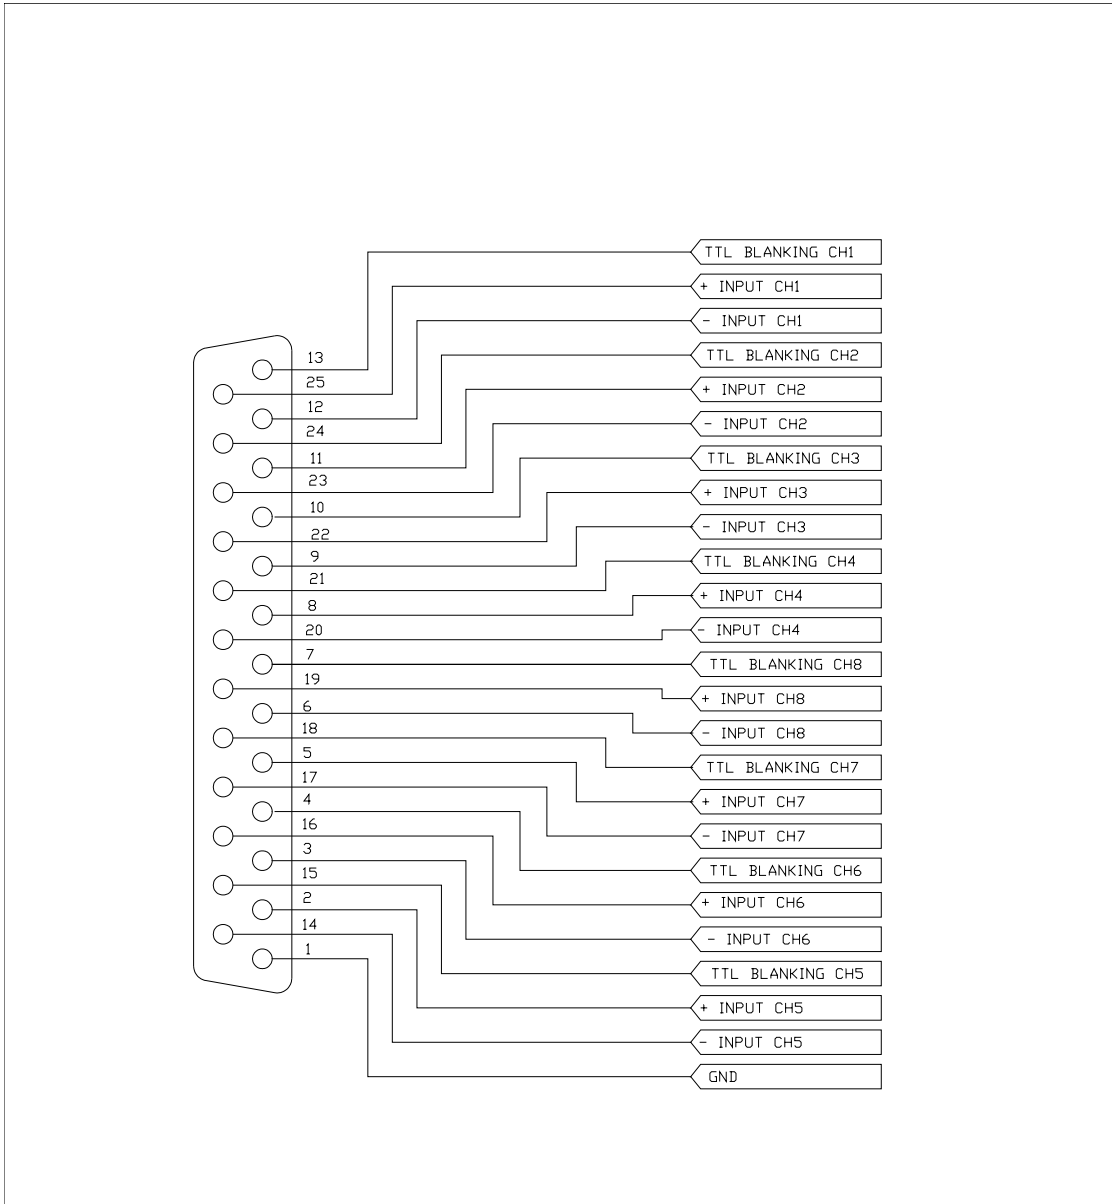

figure 1
B. Inputs/Outputs: **J1** See figure 1